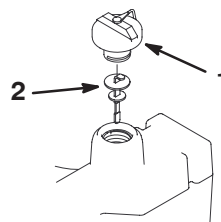

Figure 22
1. Clean the area around the filler neck and the cap of the hydraulic tank (Fig. 22). Remove the cap from the filler neck.